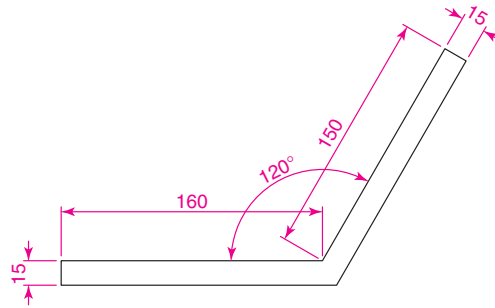

Fig. 17.5 First example – changing UCS planes – pline for extrusion
1. Set **UCSFOLLOW** to **1** (ON).
3. Construct the pline outline Fig. 17.5 and extrude to **120** high.